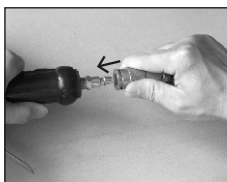

Figure 4
- 6. Remove the air cap from the tool air inlet and mount a male plug. Connect the air supply hose to the tool. Set the working pressure at 90 PSI. (See Figure 4)